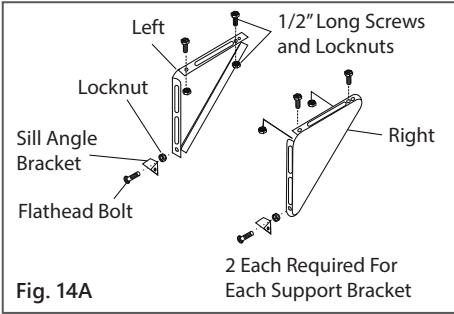

Fig. 14A
- B. Assemble sill angle bracket to support brackets at the marked position (Fig. 14A). Hand tighten only so adjustments can be made later.